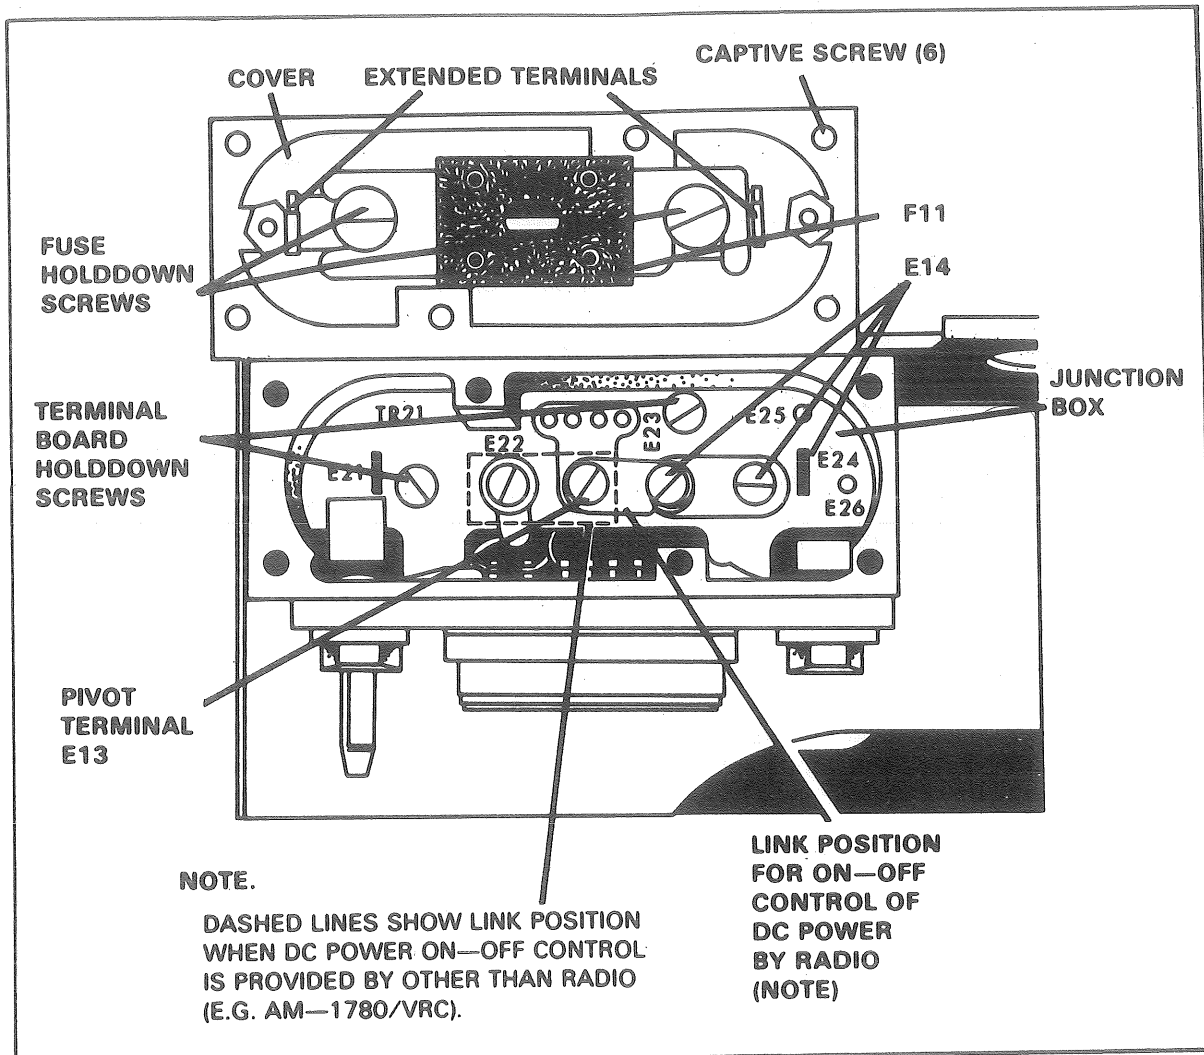

Figure 1. MT-1029 Junction Box (Link).
a. Insure the mount link is in the proper position. Power to the radio set is controlled by the Amplifier AM-1780 (fig 1).